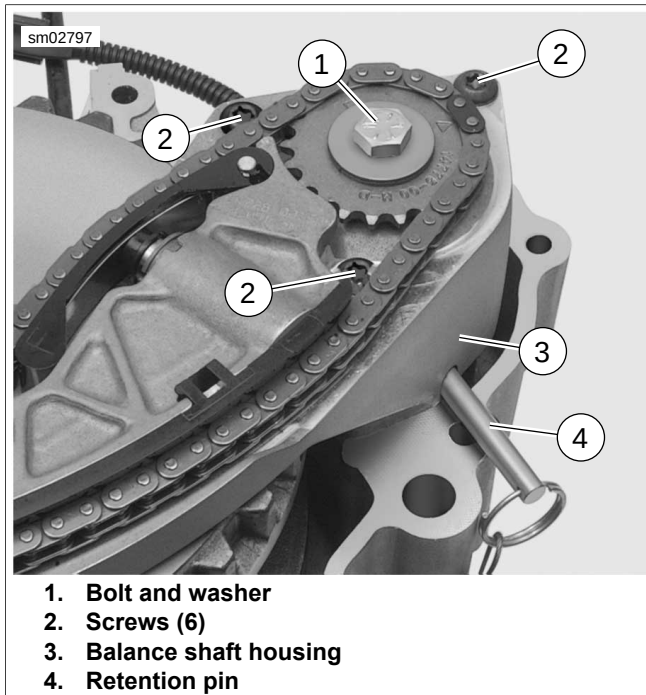

Figure 3-126. Balance Shaft Support (Front Balance Assembly Shown)
1. See Figure 3-126. Rotate flywheel assembly to align holes in balance shafts with holes in balance shaft housing (3).